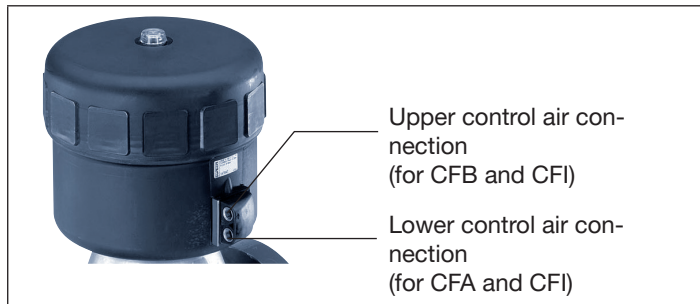

Fig. 17: Pneumatic connection
→ Pressurize lower pilot air port with compressed air (value as indicated on the type label) (see “Fig. 17”).
- Pressurize lower pilot air port with compressed air (value as indicated on the type label) (see “Fig. 17”).
- Pressurize upper pilot air port with compressed air (value as indicated on the type label) (see “Fig. 17”).